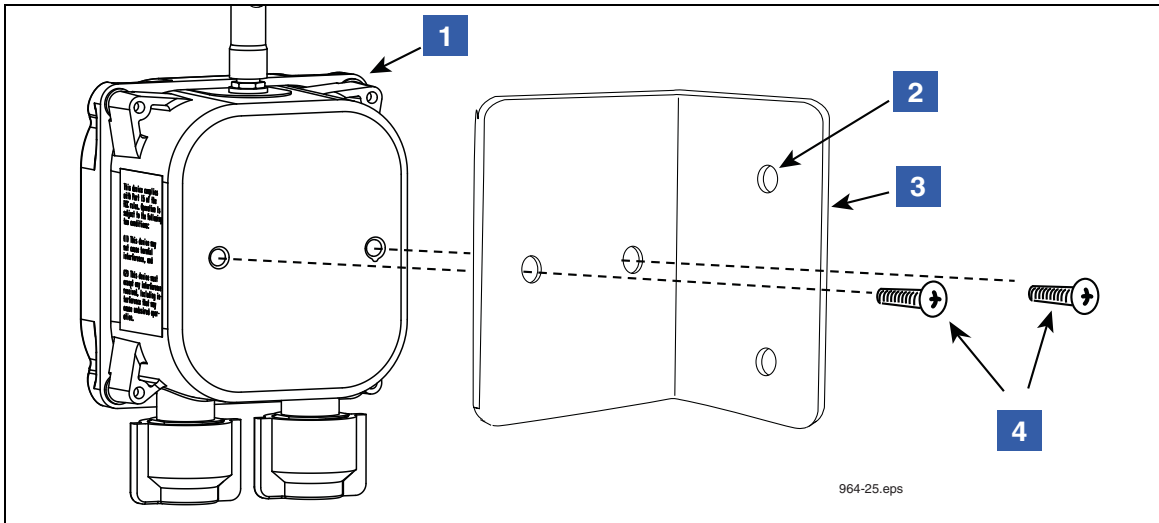

Figure 22. Attaching Mounting Bracket To Receiver Or Repeater
1. One Receiver is required per site and it is mounted in the vertical position (antenna up) on the outer wall of the same building housing the TLS RF. The Receiver is attached to its mounting bracket with #10 x 1/2" taptite screws from its install kit (see Figure 22). The L-bracket is then mounted on the outer wall of the building using appropriate fasteners (customer supplied). If the Receiver will be exposed to the weather, attach the L-bracket to the mounting surface inside a weatherproof enclosure. This enclosure is not required when mounting the Receiver under a roof overhang and shielded from the weather.
#### LEGEND FOR NUMBERED BOXES IN Figure 22
2. The Repeater is attached to its mounting bracket with #10 x 1/2" taptite screws from its install kit (ref. Figure 22 on page 34). The L-bracket is then attached to the outer wall of the building using appropriate fasteners (customer supplied). If the Repeater will be exposed to the weather, attach the L-bracket to the mounting surface inside a weatherproof enclosure. This enclosure is not required when mounting the Repeater under a roof overhang and shielded from the weather.